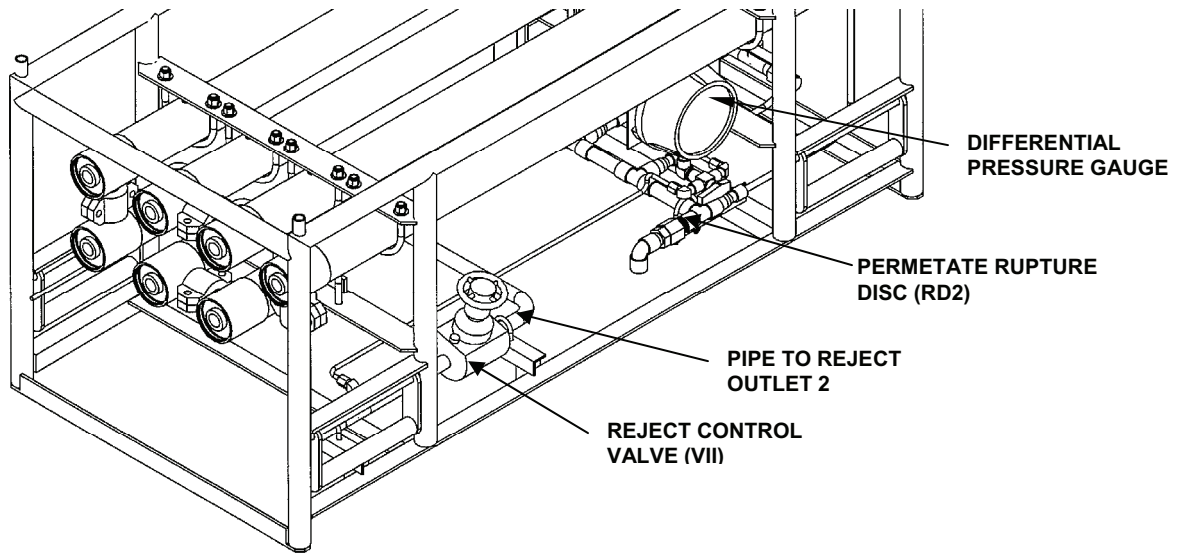

Figure 3. Reverse Osmosis (RO) Element Module.
| Differential pressure (RO) | Not more than 50 psi | See Figure 3. |